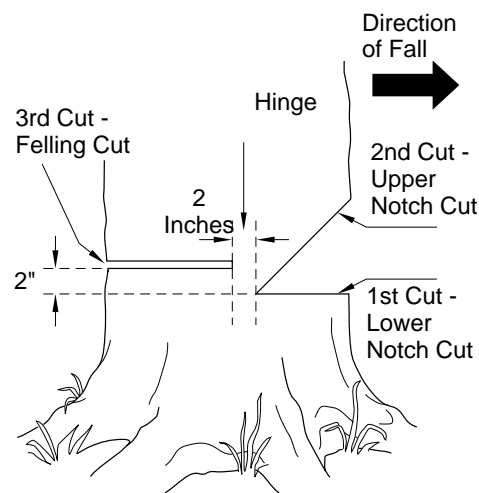

Figure 13 - Felling A Tree
A properly placed felling notch will determine direction tree will fall. Place felling notch on side of tree in direction you want tree to fall (see Figure 13). Follow directions below to create a felling notch.
1. Make lower notch cut as close to ground as possible. Hold saw so guide bar is horizontal. Cut 1/3 the diameter of tree trunk (see Figure 13). *Note:* Always make this horizontal lower notch cut first. If you make this cut second, tree can pinch chain or guide bar.
2. Start upper notch cut the same distance above first cut as first cut is deep. *Example:* If lower notch cut is eight inches deep, start upper notch cut eight inches above it. Cut downward at 45° angle. The upper notch cut should meet end of lower notch cut (see Figure 13).
1. Make felling cut two inches higher than lower notch cut and on opposite side of tree (see Figure 13). Keep felling cut parallel to lower notch cut.
WARNING: Do not cut all the way through tree. Leave about two inches of tree diameter uncut directly behind felling notch (see Figure 13). This uncut portion acts as a hinge. The hinge helps keep tree from twisting and falling in wrong direction.